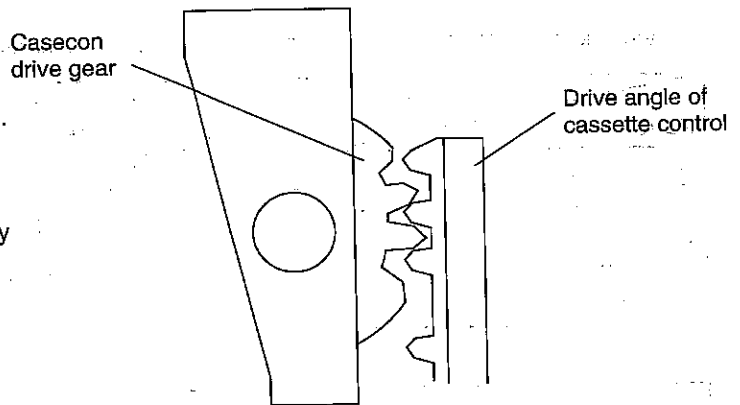

Figure 4-2.
1. Before installation of the cassette housing control assembly, make a short-circuit between TP5005 and TP5006, both located at the left on your side on the main PWB. Plug in the power cord. The cassette control drive gear starts and stops just when the big face gear shows in the mechanism chassis window. Engage the tooth 2 of the casecon drive gear with the tooth 3 of the cassette control drive angle as shown in Fig. 4-2, to position the cassette control on the mechanism chassis.